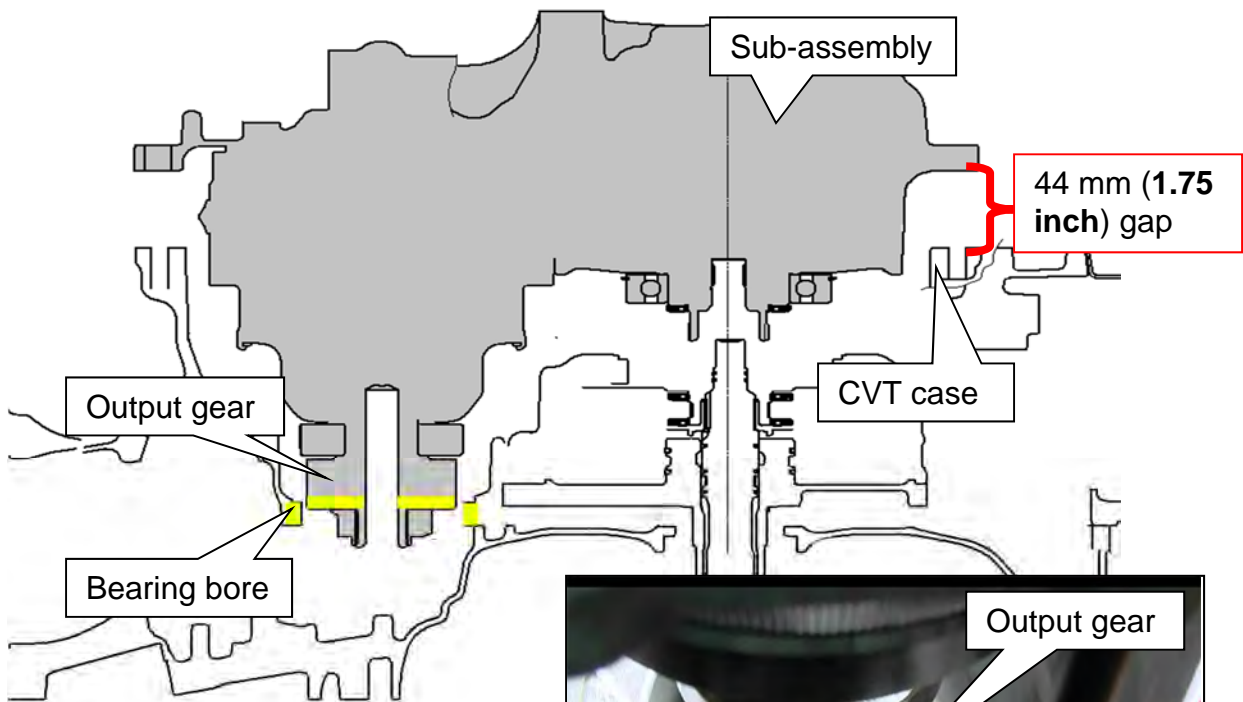

Figure 99
- If the sub-assembly will not lower farther than 44 mm (1.75 inches) the output gear did not clear the bearing bore (Figure 99).